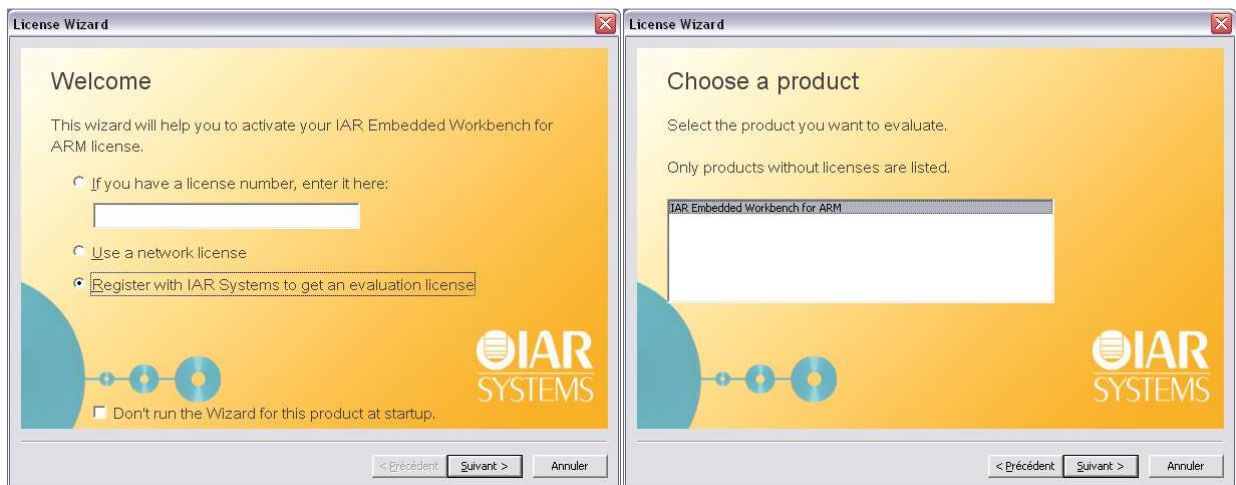

Figure 5 - License Wizard Welcome & Product Choice
- Fixed typo in Figure 5 Legend